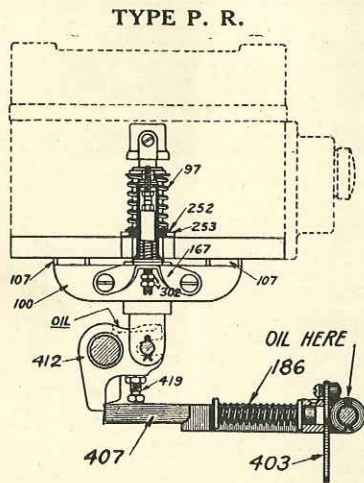
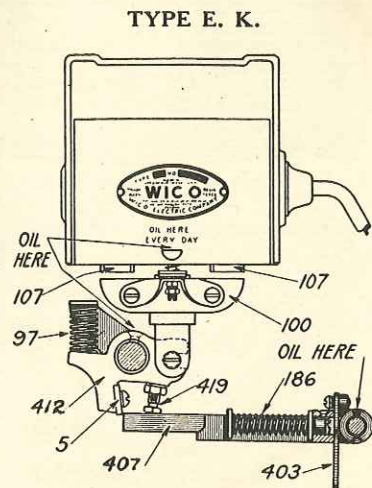

Figure 11
Figure 12
The numbers on Figures 11 and 12 will be used in the instructions on adjusting Wico Magnetos. Figure 11 shows the position of the trip finger No. 407 and armature No. 100, just before the contact between armature No. 100 and the face of the cores No. 107 has been broken. Figure 12 shows position of the trip finger No. 407 and armature No. 100 after the contact between armature No. 100 and the face of the cores No. 107 has been broken, also at the point where trip finger No. 407 trips off of rocker arm No. 412 causing armature No. 100 to return to its original position.
(See Figure 12)
Trip the armature (100) from its contact with the cores (107) and insert a strip of metal 7-64" thick between the armature and the face of the cores. Move the push rod slowly until the latch of the trip finger reaches the rocker arm. The edge of the latch should then just engage the edge of the lip of the rocker arm, and the adjusting screw (419) should be bearing on the top side of the latch, (see Figure 12) so that the least further movement of the push rod will cause the latch to slip off the edge of the rocker arm.
(See Figures 11 and 12)
Turn the flywheel over slowly and see that when the armature (100) is tripped it snaps quickly away from the cores (107). Failure to do this indicates binding or friction or a broken drive spring (186). (See Figures 11 and 12.)